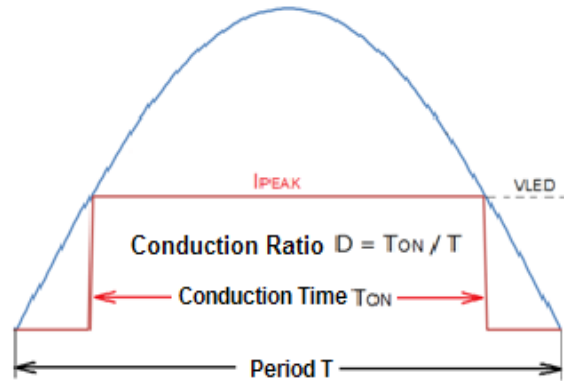

Fig.2 LED conduction procedure
Refer to Fig.2, MT7601 automatically turns on the LED string following the input sine wave. When the input voltage rises and reaches the LED conducting voltage V_{LED} , LED string turns on. Since then, the input voltage continues rising, the LED string voltage keeps stable, the internal MOSFET bears the superfluous voltage drop. If the input voltage drops, the procedure is reversed. So if the LED voltage is too high, the turn on time for LED string is short. If the LED voltage is too low, the system efficiency will be reduced. Recommend to choose about 120V high-voltage LED string in 110VAC applications,
Fig.2 shows, MT7601 actually controls the peak current during the LED turn on period.
- 1) There is no large electrolytic capacitor behind the rectifier bridge, as shown in Fig.2. At the valley, the input voltage is lower than LED conduction voltage, output current is zero. When the input voltage is higher than the LED string voltage, output current is I_{PEAK} . So, the LED string current is discontinuous. Finally, the I_{LED} is LED string average current.